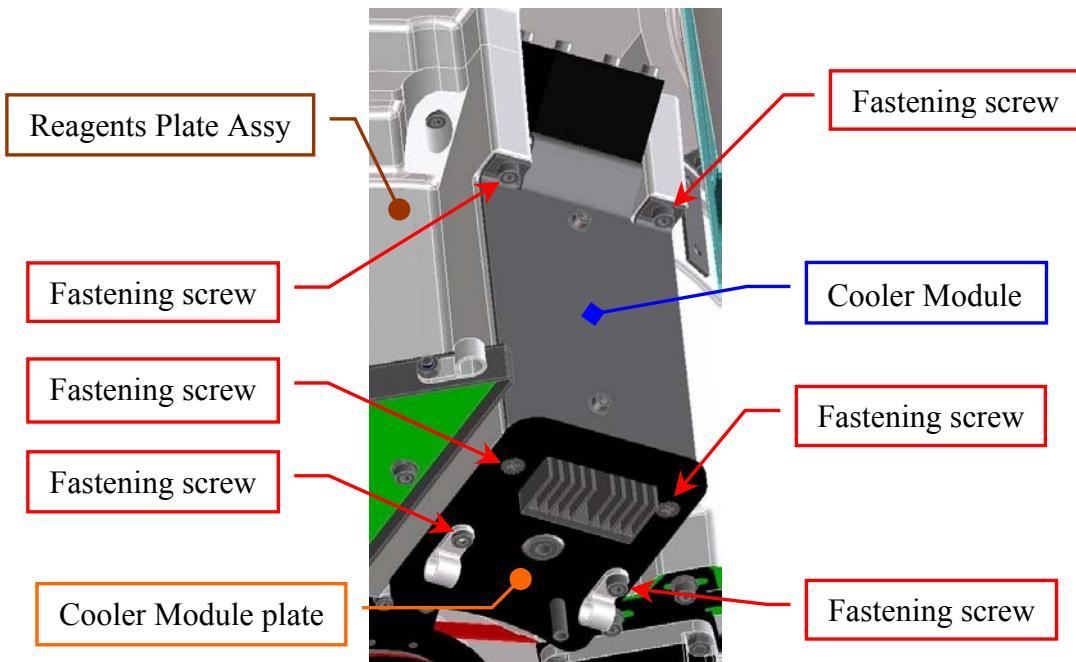

Fig. 91 – Cooler Module [P/N:10-02536-01] on the Reagents Plate Assy
4. Unscrew the six fastening screws of the Cooler Module (**Fig. 91**) and take out the Cooler Module from its housing on the Reagents Plate Assy (note: unscrewing the four fastening screw placed on the Cooler Module plate, it and the remain part of the module do not keep together).